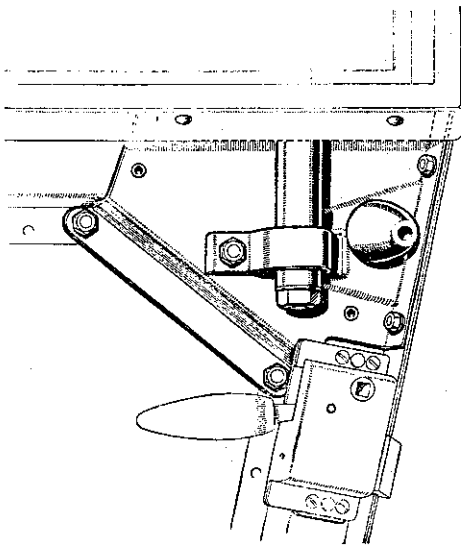

Fig. R-7--Door gusset plate
8. Fit the gusset plate in position as shown at Fig. R-7.